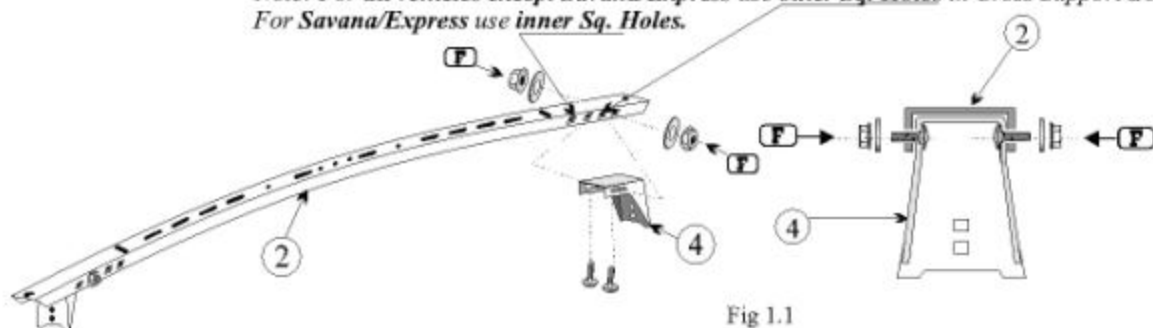

Fig 1.1
- 1.1 Attach a Foot Channel (4) to the sq. holes at each end of the Cross Support Bow (2) using two (2) of fas. Group (F). See Fig 1.1 for assistance. The bolt heads should be inside the channel, allowing access to the nuts for tightening at a later time.
For Savana/Express use inner sq. Holes. See Fig 1.1.*